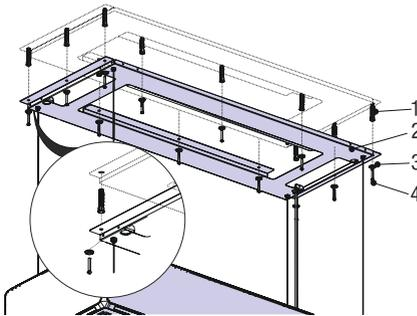

Fig. 26
7. ➤ Screw the ceiling hanger, which you have already attached to the ceiling with a 12x 5.5 x 60 hanger screw, with Ø10mm plastic dowels (Fig. 26).